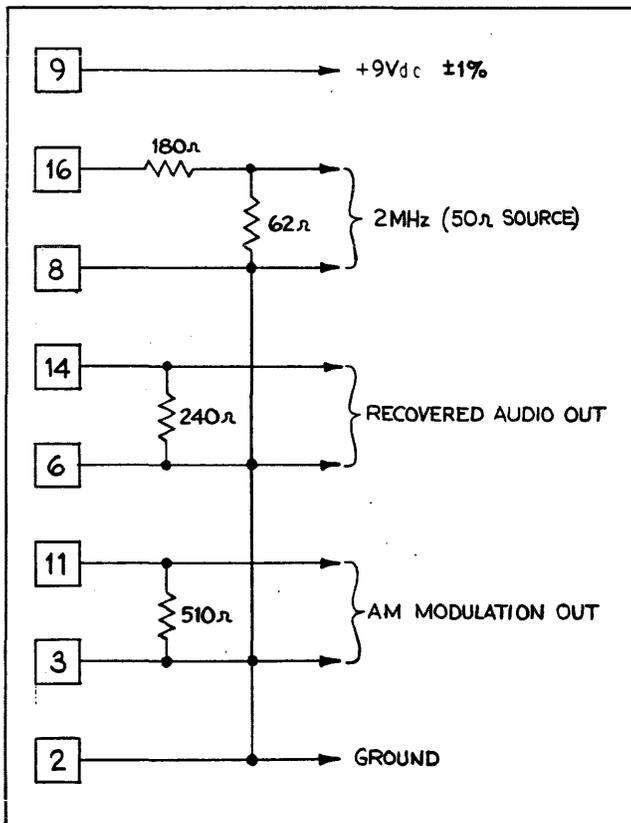

FIGURE 4-39
a. See Figure 4-39 for schematic of test connector wiring.